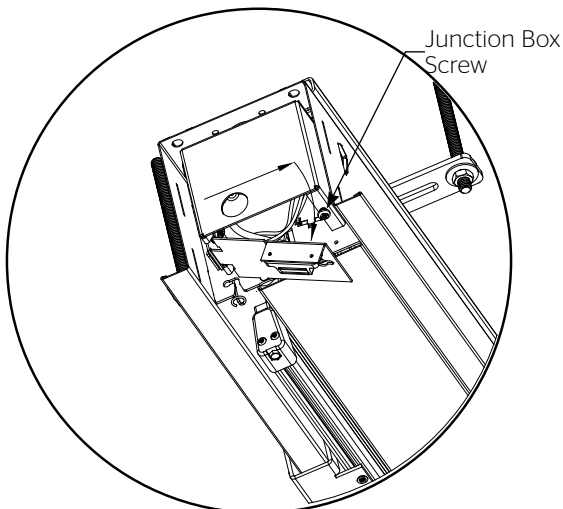

Figure 1
3. Loosen screw using a #2 Phillips screwdriver to slide junction box door and rotate open. Install electrical connections that apply to your unit. Make sure to review the wiring diagram for proper hook up. Close junction box by rotating lid and sliding over screw. Secure shut by fastening closing screw. (Figure 1)